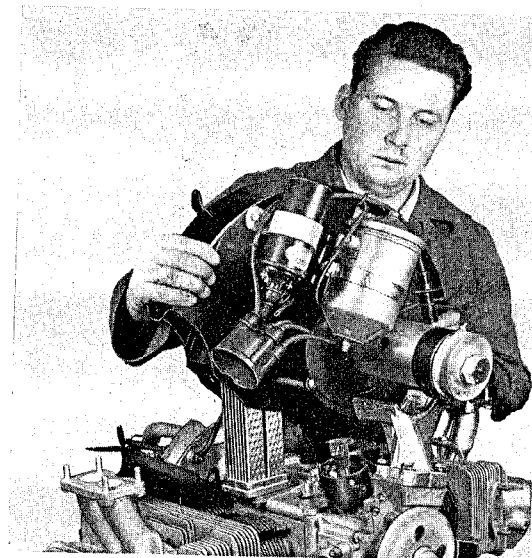

Fig. 78
8. Lift fan housing from engine (Fig. 78).